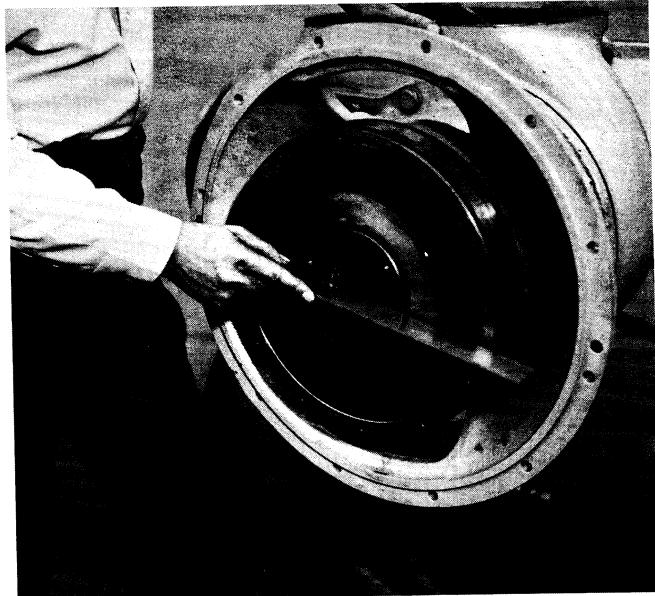

Figure 36
31. Install compressor coupling in reverse of the method used to remove it. Make sure the face of the tapered hub is flush with the end of the drive shaft. Refer to Figure 36.